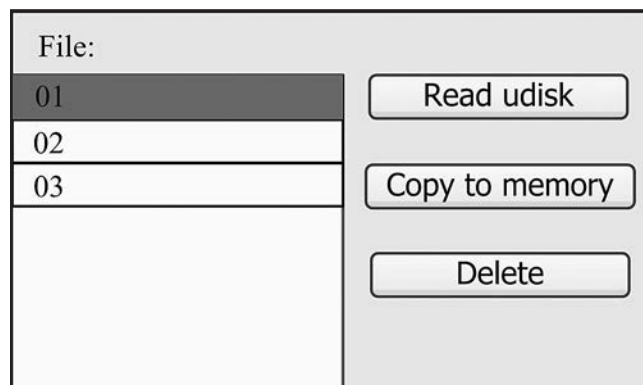

Figure 43. Example of Udisk+ screen.
- Screen will display files currently on USB flash drive (see **Figure 43**).